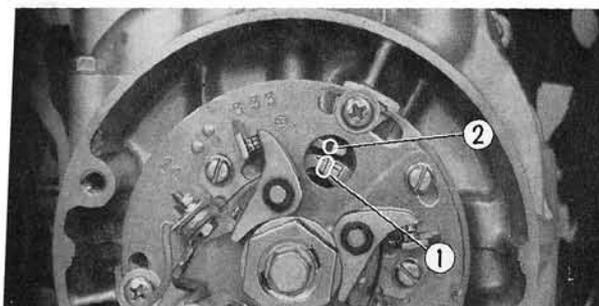

fig. 3-21 1 "T" 1.4 mark
1. Rotate the crankshaft and align the mark "T" 1.4 on the spark advancer with the matching mark as shown in Fig. 3-21.